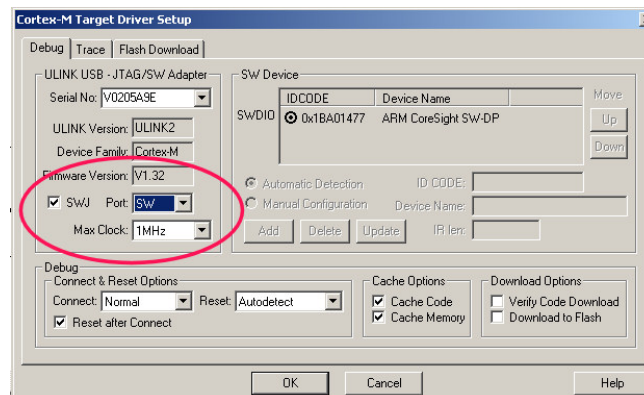

Figure 15
- 1) Select the Serial Wire Debug Port instead of the JTAG port (Figure 15).
- 6) Click on Settings to configure the ULINK2. Figure 15 below opens up.